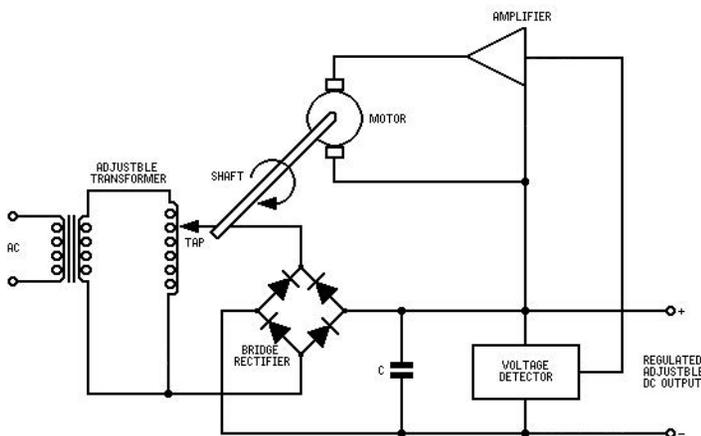

Fig.8. Superior regulation is obtained by using feedback - as demonstrated by this electromechanical form of regulator.
If the actual load voltage is compared with a constant reference-voltage source, it is possible to determine if the output is greater or smaller than required and by how much. Having made I such a comparison, the difference, called the error signal, can be used to modify the incoming signal accordingly. This is the principle of feedback. Figure 8 shows how feedback is used in the electro-mechanical type of supply regulator. These regulators are used where loads are high and the unwanted changes occur only relatively slowly. In operation the output of a basic rectifier is smoothed by a capacitor (C) to provide the required output voltage. The output voltage is compared with a reference voltage and
Thus, by using feedback, changes in output voltage are rapidly sensed and the input quickly compensated. The feedback amplifier and control actuator (the motor in Fig. 8) need not be precision devices - they can be quite crude in fact - but the reference voltage must have better stability and accuracy than is required from the output.